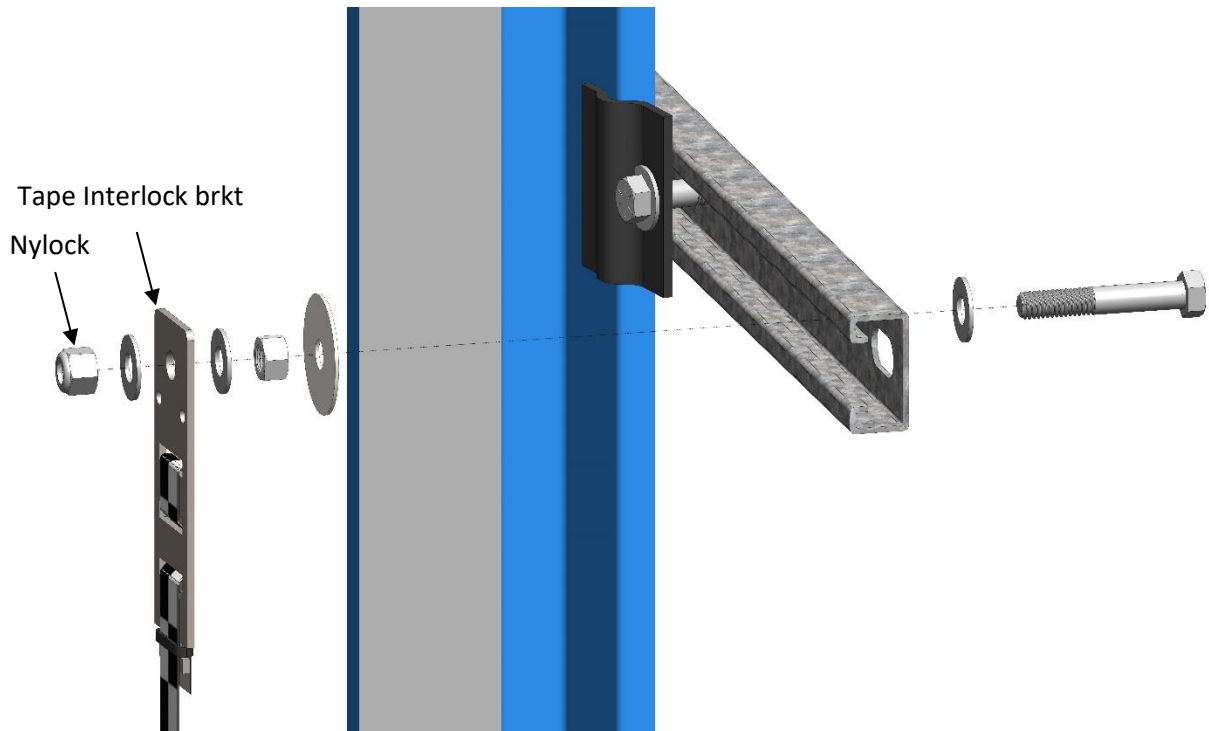

Figure 10: Upper Tape Mounting
- Loosely assemble the Upper Tape Mounting Assembly in the order shown in figure 10.